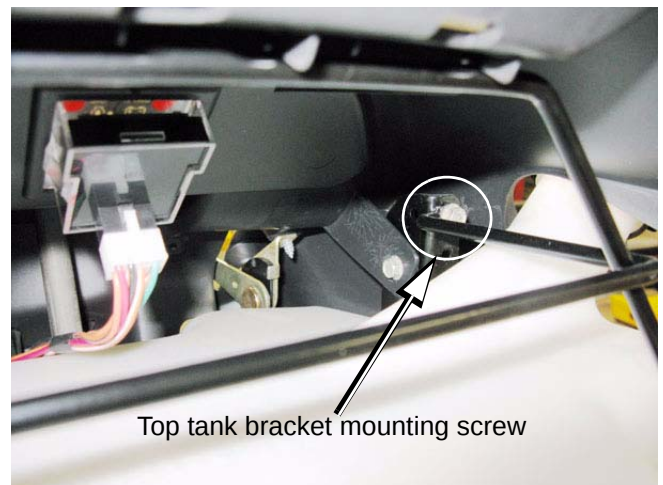

Figure 4.38
- 3b. Remove the two screws that hold the top of the wire form fuel tank bracket to the dash support brackets using a 3/8" wrench. See Figure 4.38.